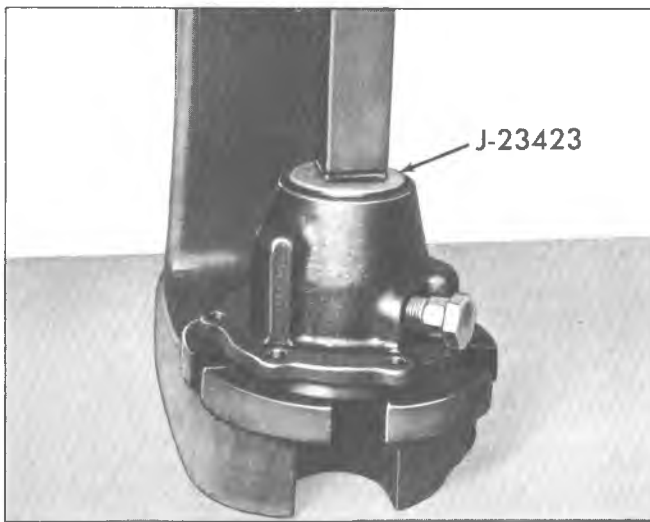

Fig. 11D--Installing Rear Output Shaft Rear Bearing Cup
4. Install the rear bearing and cup in the rear housing bore using Tool J-23423 as shown in Figure 11D until cup seats in housing.